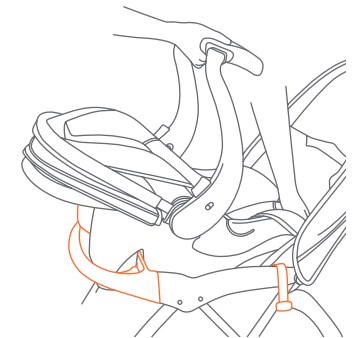

Fig. 18b
- Position the infant car seat so that it faces toward the rear of the stroller and the seat shell goes into the front tray and latches into place (Fig. 18b).